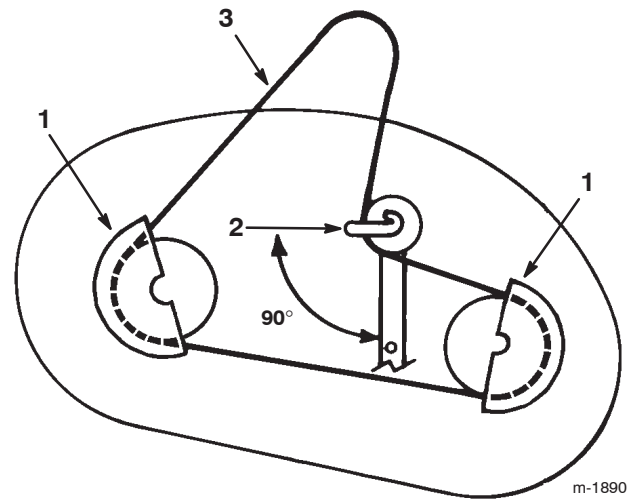

Figure 45
- Remove the pulley cover mounting screws and pulley covers from both blade pulleys (Fig. 45).
- Loosen, but do not remove, the bolt and nut securing the idler pulley and belt guide (Fig. 45).
- Position the idler pulley belt guide so it points toward the left, 90° to the idler arm (Fig. 45). Tighten the mounting bolt and lock nut securing the idler pulley and belt guide.
- Install the left and right pulley covers with the mounting screws (Fig. 45).